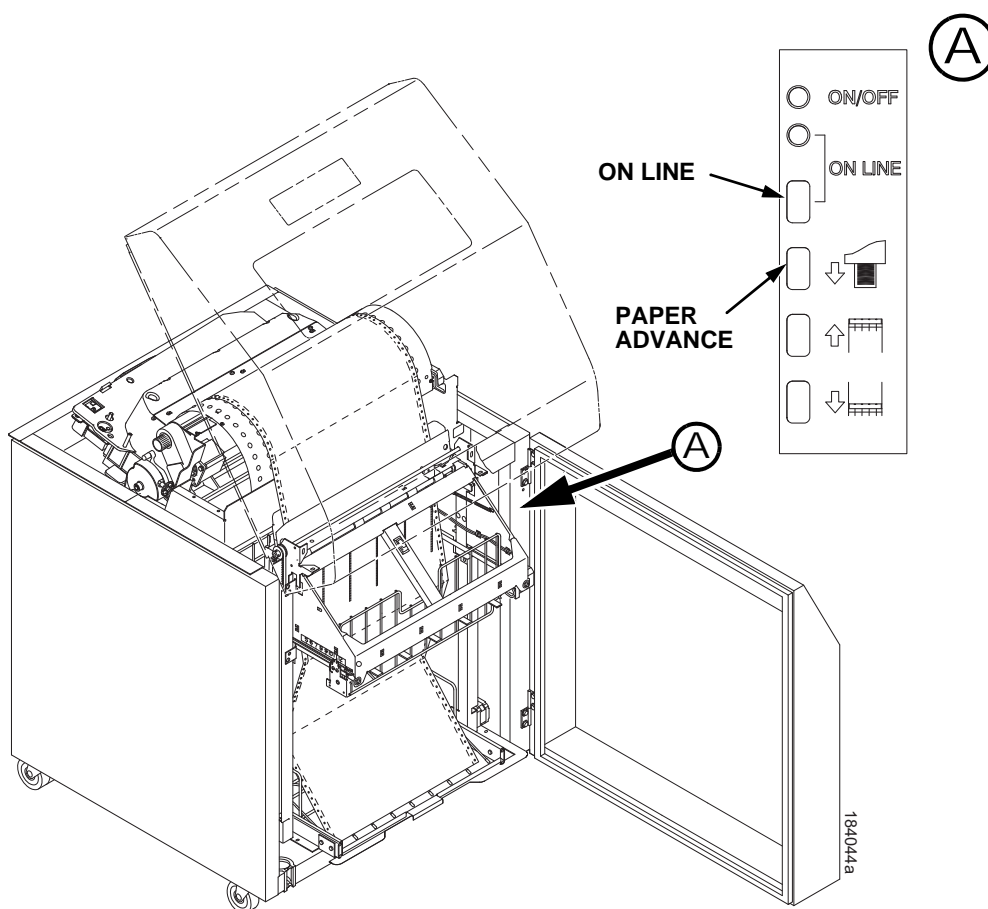

Figure 5. Stacking Paper on the Wire Paper Tent
1. Press the **PAPER ADVANCE** key and hand feed the paper down into the paper throat of the stacker. Continue to advance the paper until it reaches the paper tent (if installed) and feed three to five extra sheets into the stacker. Make sure the paper passes through the paper throat of the stacker. (Figure 5.)
2. Stack the extra pages on top of the wire paper tent (if installed), making sure the paper bends with the natural fold. (Figure 5.)